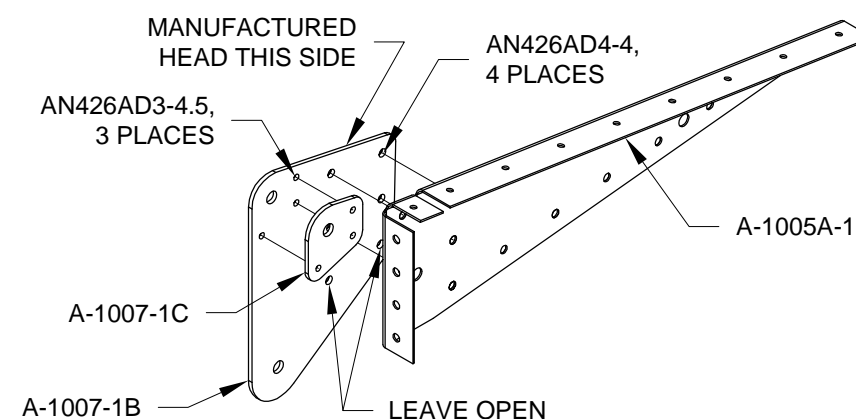

FIGURE 4: INBOARD HINGE BRACKET ATTACH
Step 7: Cleco then rivet the A-1007-1B and A-1007-1C Inboard Hinge Brackets to the A-1005A-1L and A-1005A-1R Main Ribs. Leave open the 2 bottom holes as noted in Figure 4.